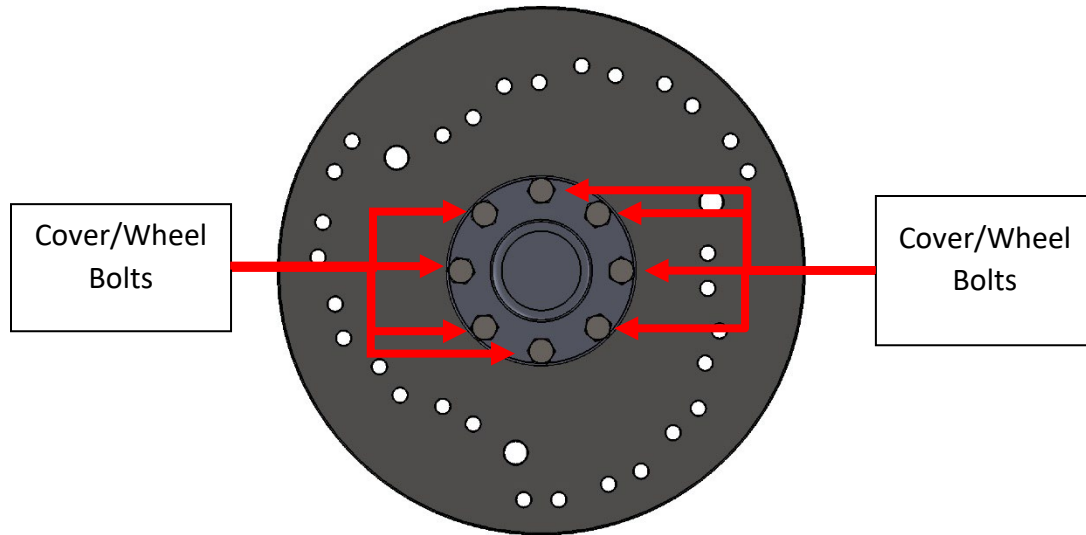

Figure 1.1
1. Remove 8 bolts attaching the center cover and wheel to the cutter wheel hub. (Figure 1.1)